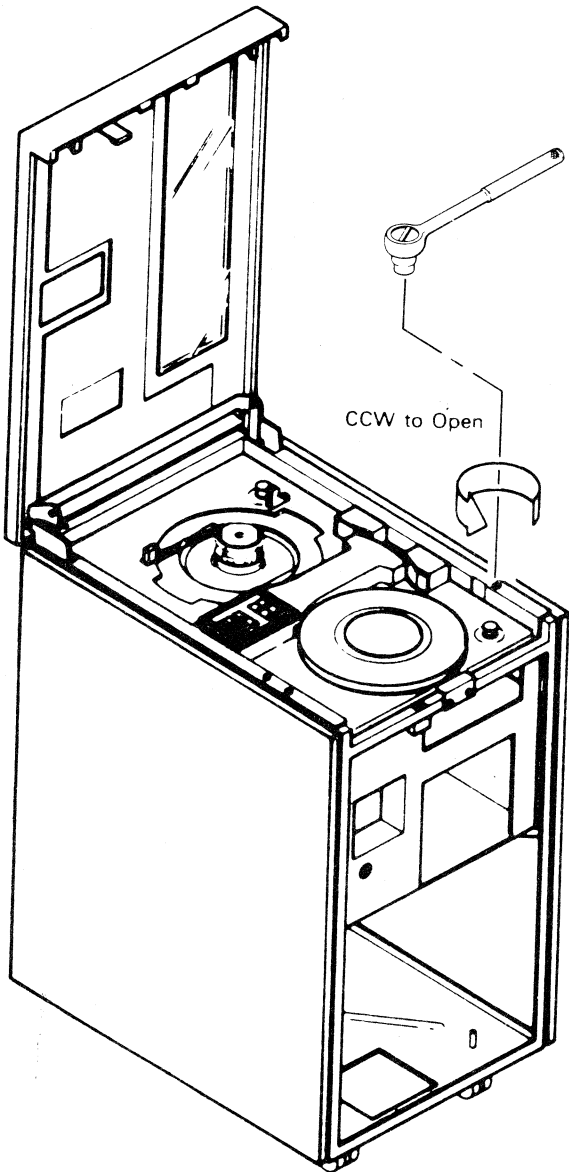

Figure 2. Raising Tape Deck
- 4. Use a 5/16 inch socket to raise the tape deck to its service position (see Figure 2).